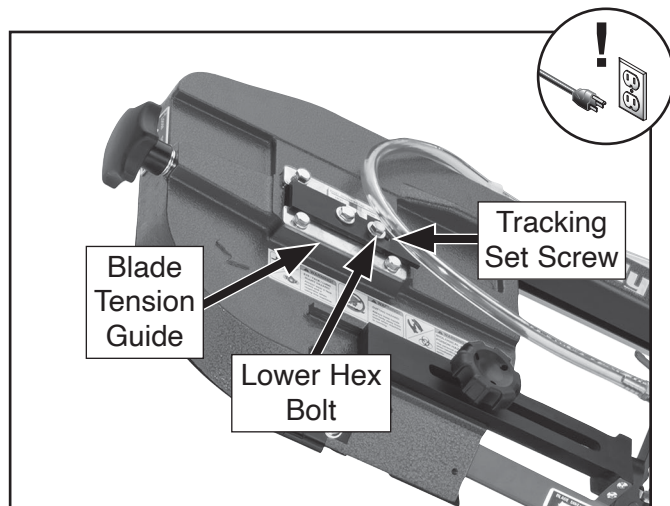

Figure 77. Blade tension components.
4. On blade tension guide, loosen, but do not remove, lower hex bolt (see **Figure 77**).
6. Adjust tracking set screw (see **Figure 77**), then tighten hex bolt loosened in **Step 4**.